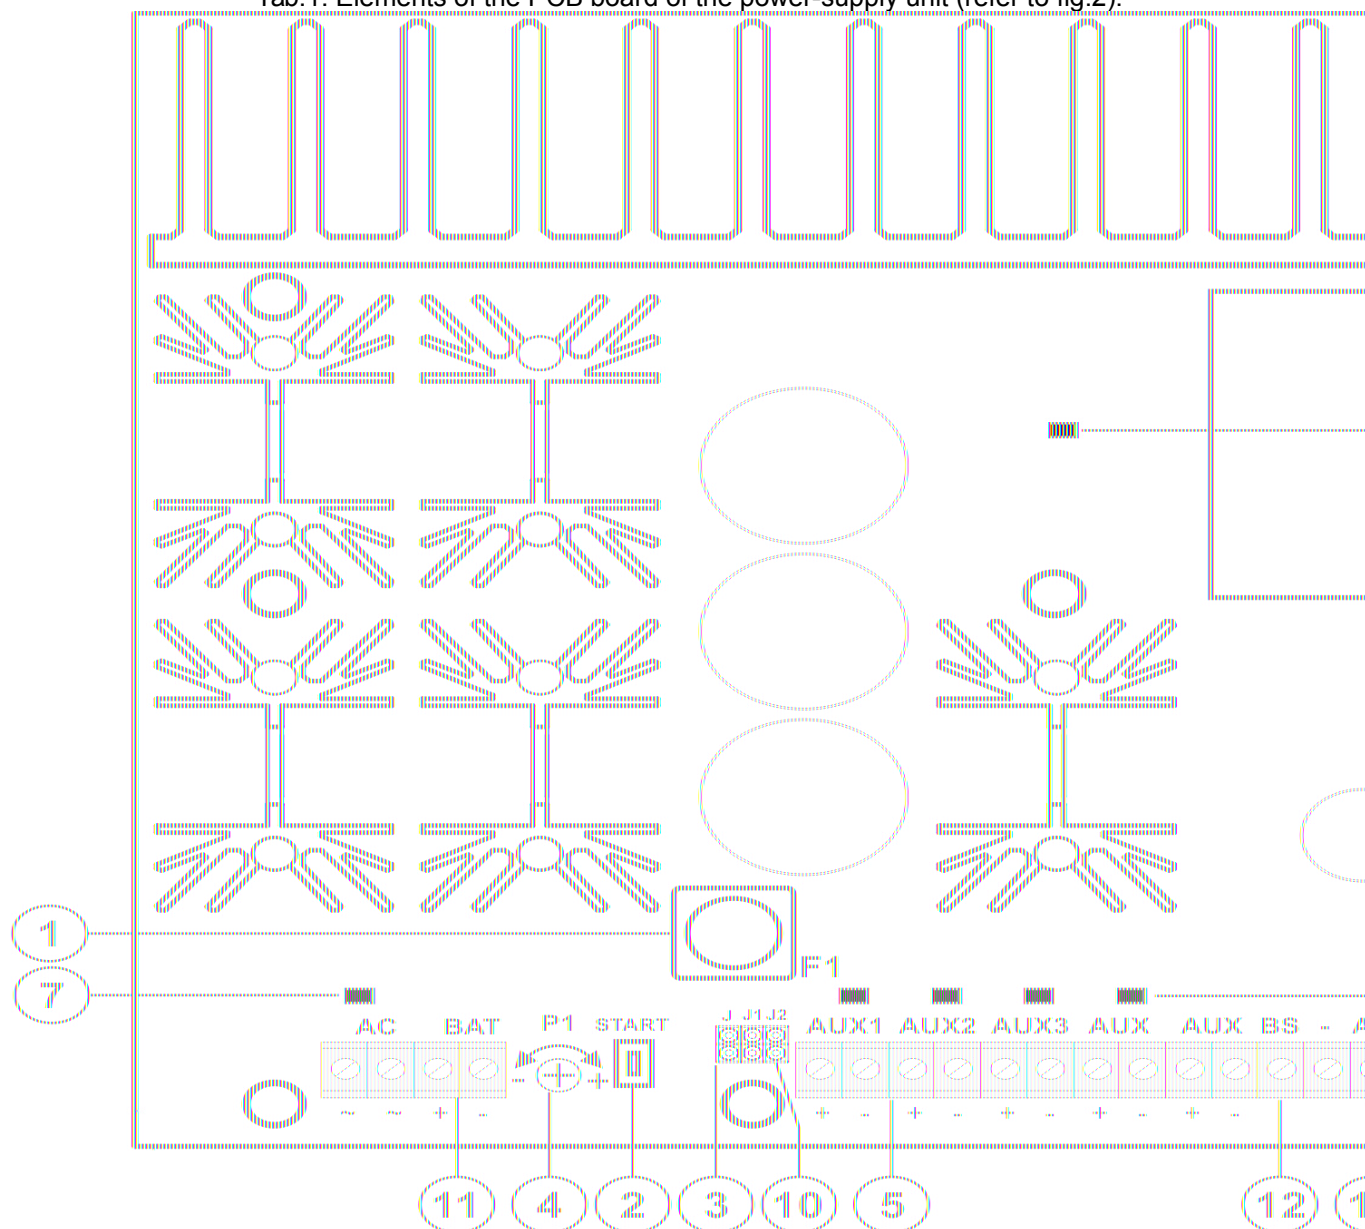
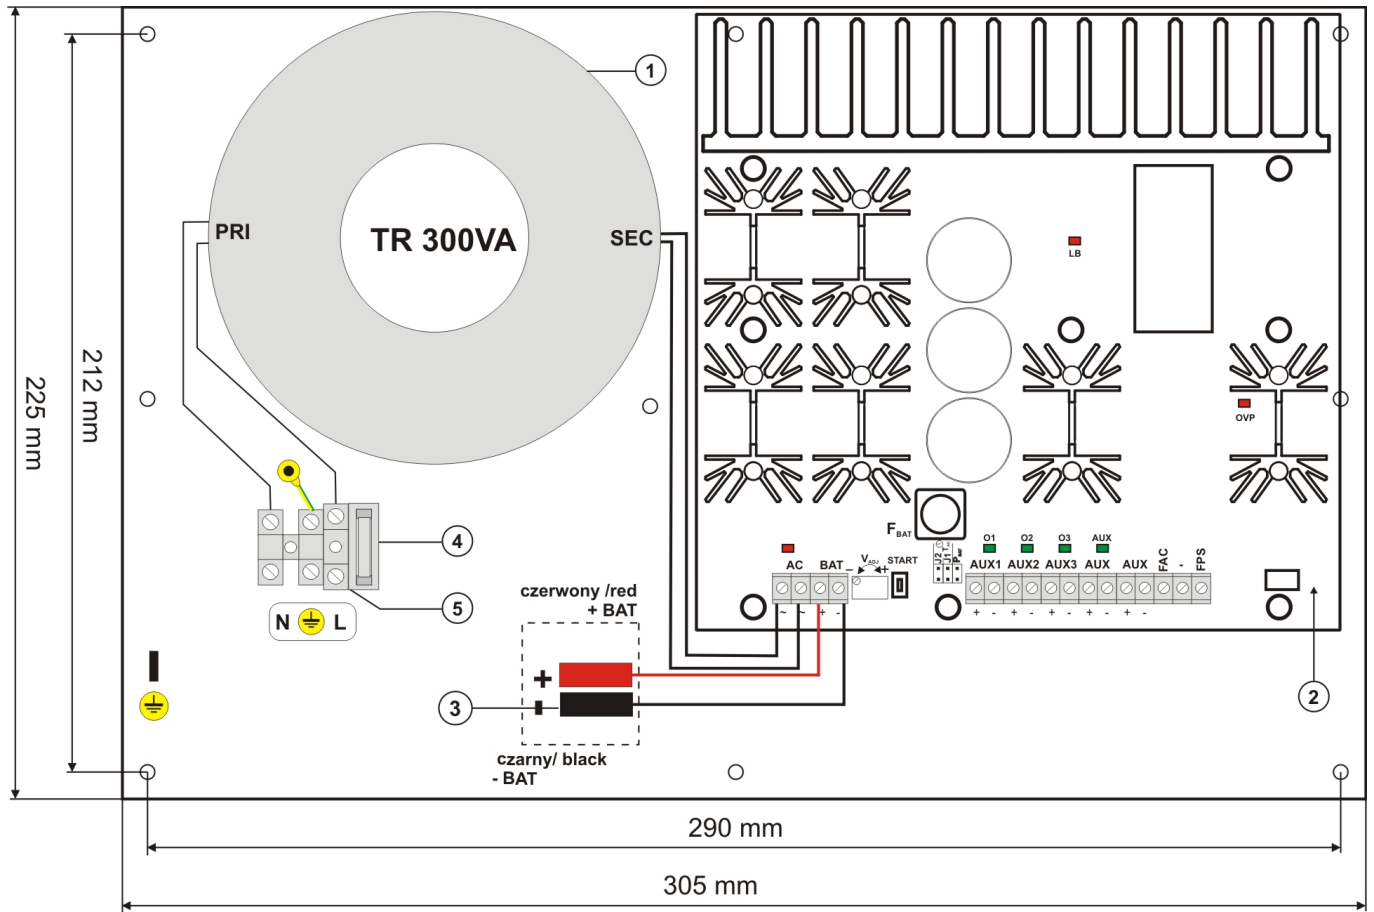

Fig.2. View of the PCB board of the power-supply unit.
Fig.3 View of the power-supply unit.
1.3. Description of elements and connection links of the power-supply unit (tab.1, tab.2, fig.2, fig.3).
Element no. [Fig. 2]	Description
Tab.1. Elements of the PCB board of the power-supply unit (refer to fig.2).
Element no. [Fig. 3]	Description of outputs of the power-supply unit
Tab.2. Elements of the power-supply unit (refer to fig. 3).
The PSU is equipped with three diodes indicating operation status: AC, LB, AUX, O1, O2, O3, and UVP, placed on the PCB (fig.2) of the power-supply unit module: